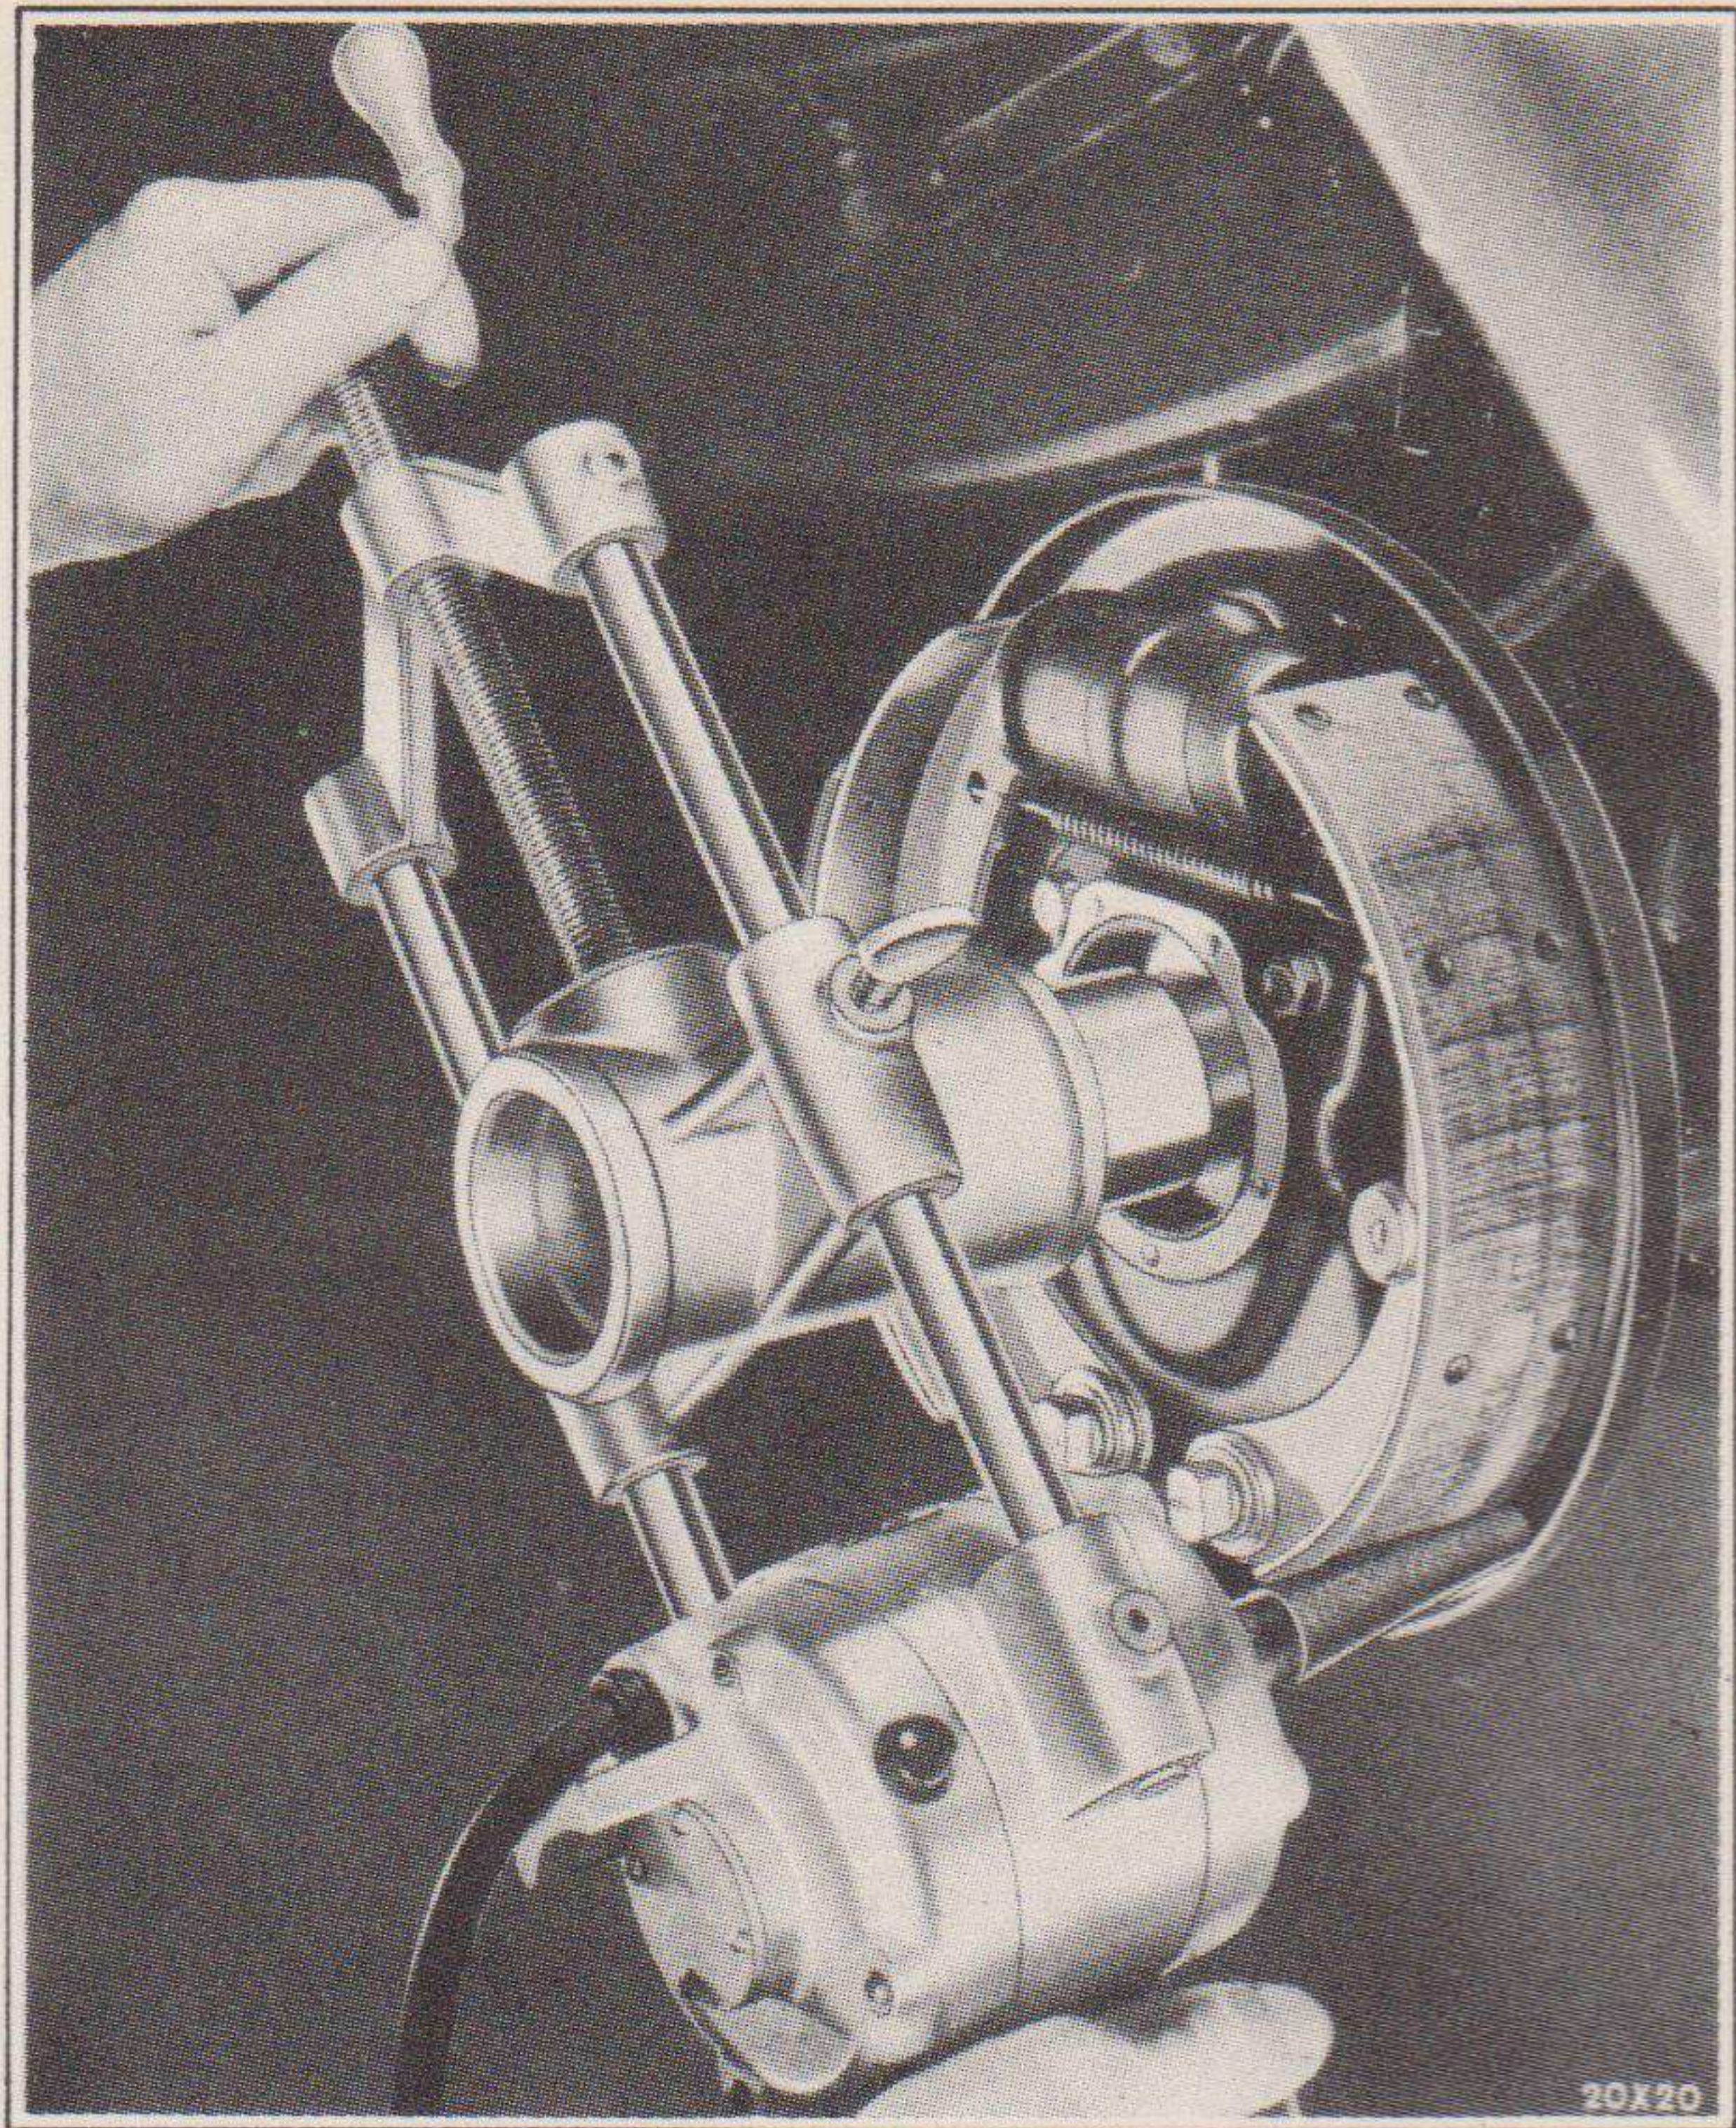

Fig. 69—Grinding Brake Shoe Facing (Tool MT-44)
- (e) Chamfer the end of the lining back about $\frac{3}{4}$ " from the top and bottom, and remove high spots or burrs around rivet holes with a grinding tool (Fig. 69) or a fine file. *Do not use emery paper.*
Rough or high spots can be quickly and easily removed by using a brake lining re-facing tool as illustrated in Fig. 69. The lining should be faced to full drum diameter.